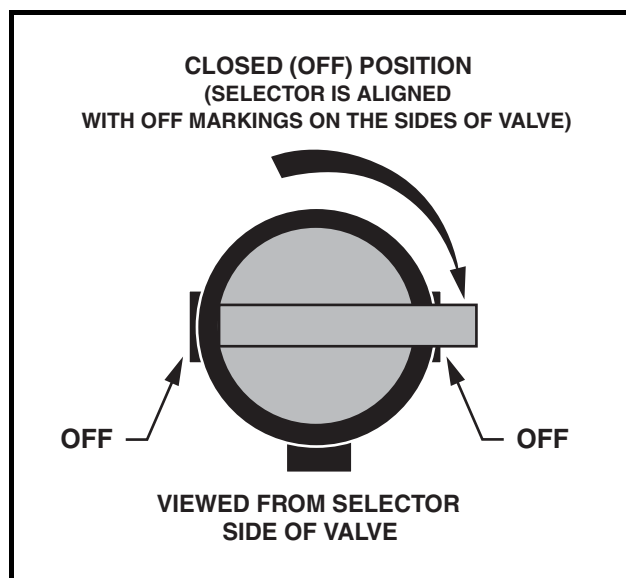

Figure 11 Fuel Shut-off Valve – Closed Position
- Gasoline vehicles only: Turn fuel shut-off valve to the closed (OFF) position (Figure 11, Page 26).
- Gasoline vehicles only: Turn fuel shut-off valve to the closed (OFF) position (Figure 11).